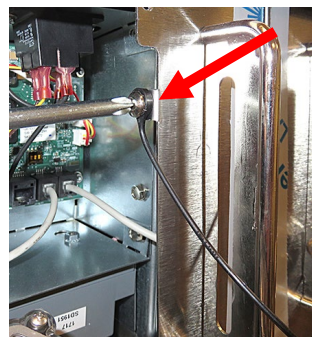

Figure 17
10. Disconnect the lanyard tether from the frame (see Figure 17) to remove the controller.